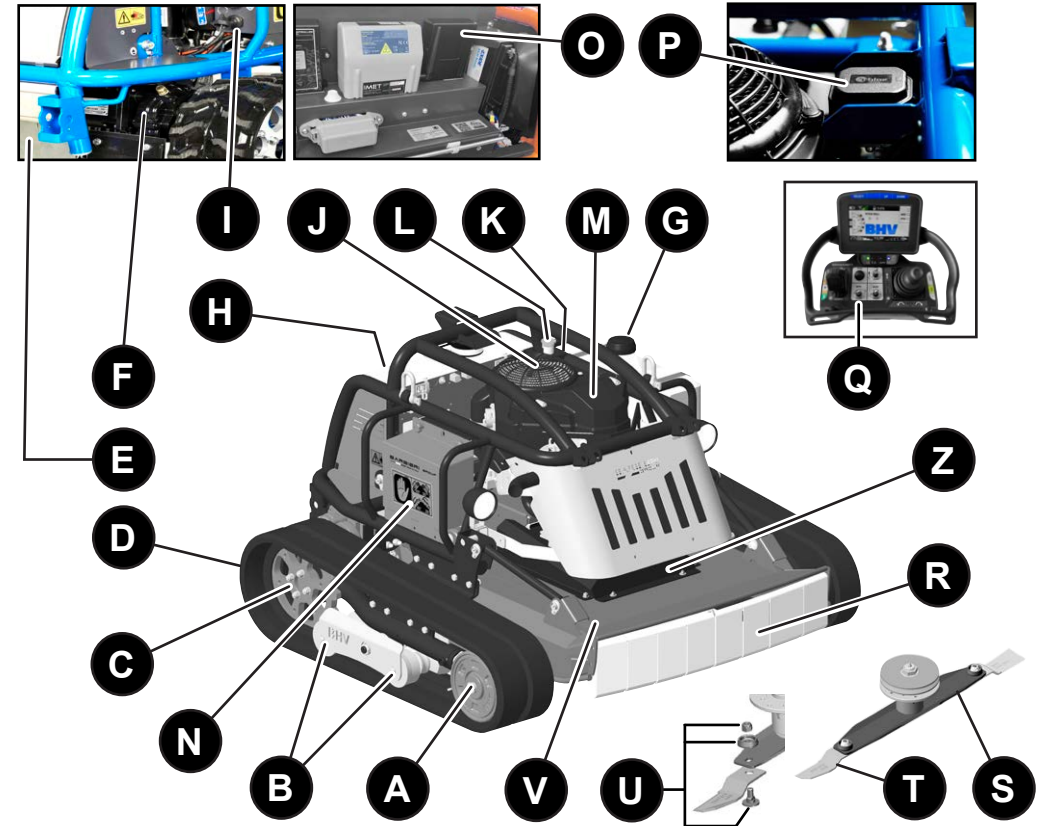
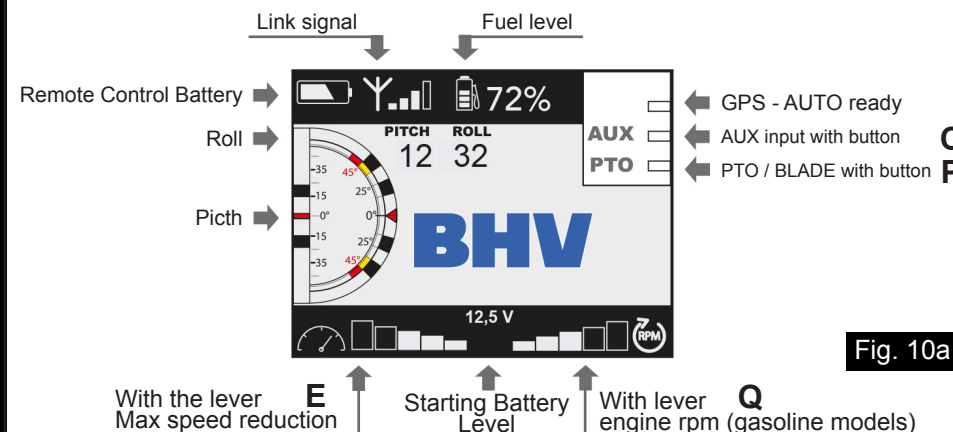

Fig. 7
Fig. 10
4.1 NAME OF MAJOR COMPONENTS (Fig.7)
The engine is equipped for a filter for the inlet air. In the case of dry grass and congested areas, the air filter must be cleaned very often (every 2 hours). If dry blades of grass stick to the automatic openings of the engine's power generator (Fig. 7 - J), it is very likely that they are also in the air filter, which must be cleaned. (see Section 7.1.2). A clogging of the air filter can lead to a loss of engine performance. The filter should be cleaned daily under normal conditions.
To connect the radio control, press the green button A (Fig. 10) on the left and wait for the green light (H) and the blue light (L) to start flashing. When both lamps flash, press the green button A (Fig. 10) again for one second and then release it. Both lights stop flashing and the acoustic signal stops and the light turns green flashing: the radio control is connected. In the event of an error, repeat the process.
5.2 ENGINE START (Fig. 10 - 11)
Move the throttle lever up (Fig. 10 (Q)) to the maximum. Keep pressed the button (A) and then press the button (B) (Fig. 10) until the engine starts.
5.3 ENGINE STOP (Fig. 10)
To switch off the engine, press the red alarm button at any time (Fig. 10 (O)). The engine suddenly stops. Shortly after stopping, remember to release the alarm switch in its normal position. The engine can also be switched off by the alarm button on top of the machine (Fig. 7 (L)), by turning off the star key (Fig. 7 (I)) or anytime the radio connection with the remote control is interrupted
This lever reverse the motion. Move the Joystick (G Fig.10) FORWARD gradually and continuously. The machine will move ahead. The machine can be easily controlled by a finger that controls both speed and direction. It is possible to reverse the Joystick function when the machine moves forward and towards you (Fig. 13).
The machine is equipped with a tilt control that reduces the maximum speed. The driving speed is reduced on inclines of more than 30°. The operator is warned by the vibration of the remote control and by the BeaconNet changing from flashing yellow to constant yellow. A further reduction takes place at angles over 45°, which are displayed by the BeaconNet with a continuous red light. The normal driving speed can be restored with the lever button (E) of Fig. 10.
- 2 - 12 V plug controlled by Radio Control (Aux) Fig.10 (C)
- 3 - Plug with switching polarity for electric actuator Fig.10 (M)